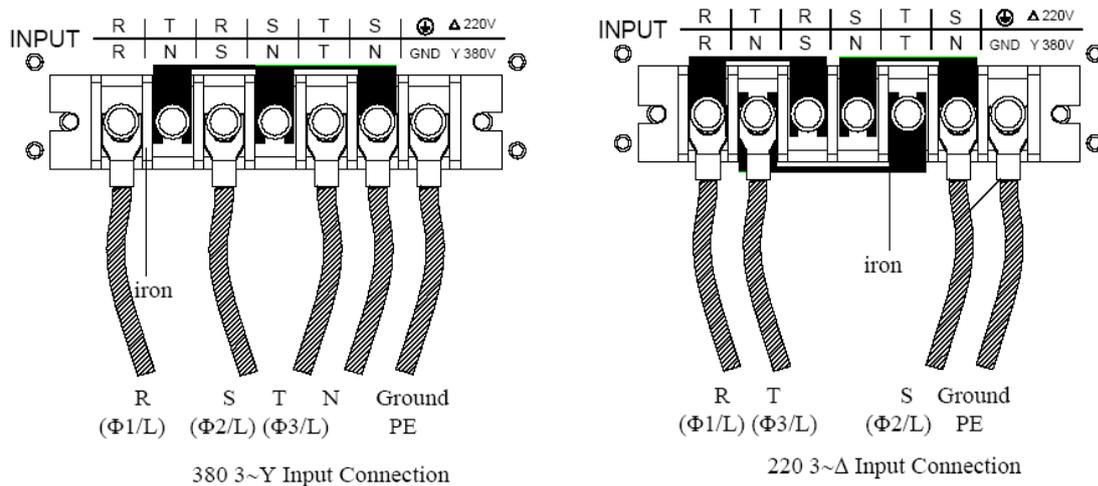

Figure 3-1 Connecting AC INPUT Wires for 62000B-6-1
- (1) The input connector is located on the right side of the rear panel.
- (2) The power cord must be at least 85°C rated.
- (3) The thickness of the power cord must be between 12AWG and 10AWG.
- (4) See Figure 3-1 and follow the steps below for the assembly: